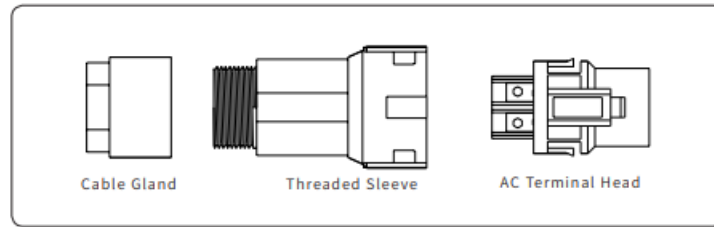

Figure 4-14
1. Take the AC connector out of the accessory bag and disassemble it, as shown in Figure 4-14: